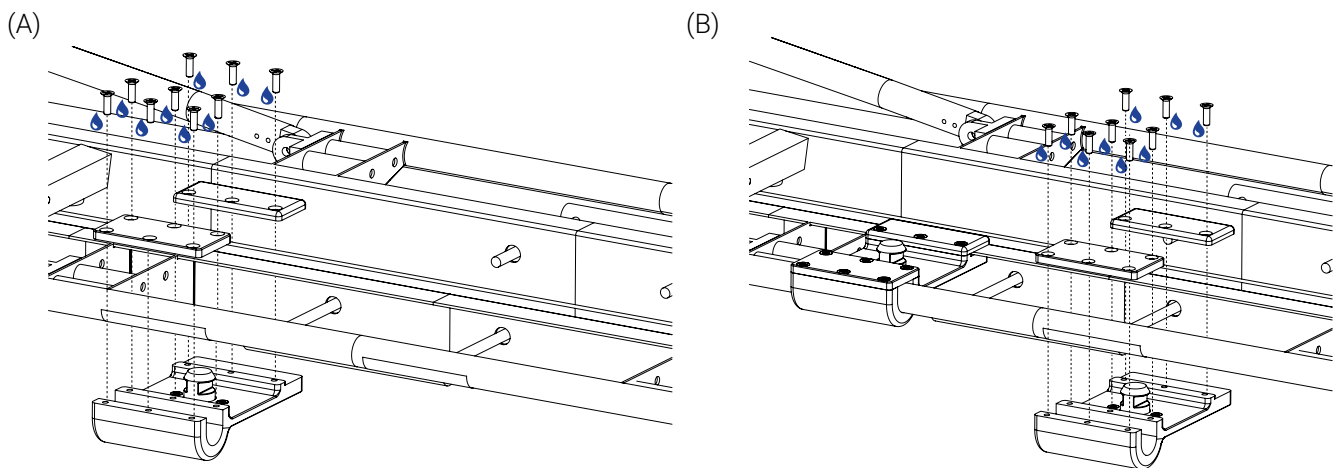

Figure 18: Partial installation of the clamp blocks - Patient right
3. In the mid-section of the stretcher on patient right, place and hold the bottom part of a clamp block under the stretcher siderail, then place the 6-hole top plate and 3-hole top plate over the stretcher siderail (Figure 18 A) and partially tighten using nine (9) screws, medium strength thread lock adhesive and a Phillips screwdriver.
4. Repeat step 3 to install a second clamp block in the mid-section of the stretcher on patient right (Figure 18 B).